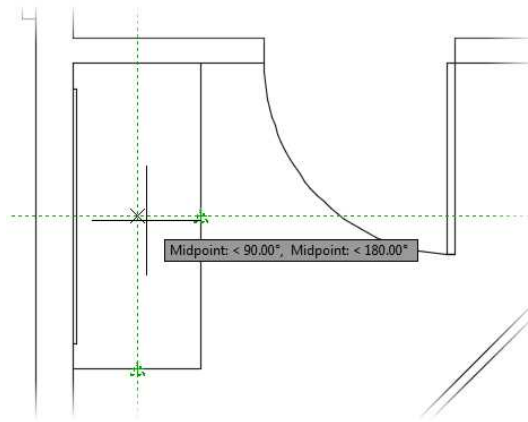

FIGURE 5.66: Defining the center point for the ellipse
- b. Move the cursor to the left when the cross appears in the Midpoint osnap marker. A small, dark X appears at the intersection to indicate the point that AutoCAD will use for the center point of the ellipse (see Figure 5.66).